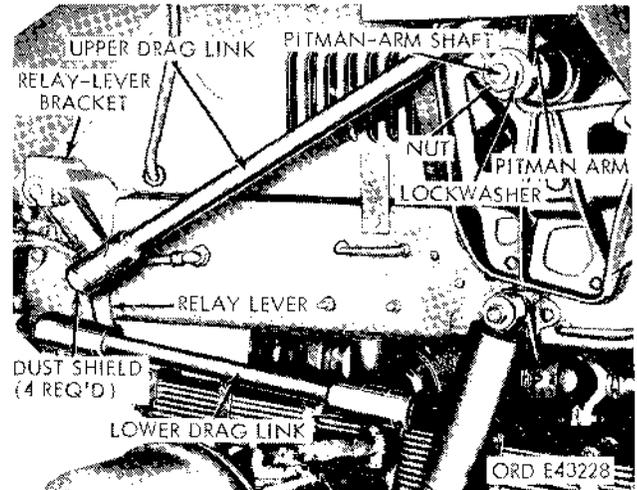

Figure 2-207. Steering linkage under left fender.
a. Removal (fig. 2-207).
(1) Remove the nut and lockwasher securing the pitman arm to the left end of the pitman arm shaft.
(2) Pull the pitman arm from the shaft.
(3) Disconnect the rear end of the upper drag link from the pitman arm ball stud (para 2-218).
b. Installation (fig. 2-207).
(1) Connect the rear of the upper drag link to the pitman arm ball stud (para 2-218).
(2) Set the front wheels in a straightahead position, and set the steering wheel in the mid-position.
(3) Position the pit man arm on the splined shaft with the arm pointing upward.
(4) Push the pitman arm onto the shaft until the nut can be installed on the threaded end of the shaft.
(1) Remove the dust shield (fig. 2-207) from the pitman arm end of the upper drag link.
(2) Place the front end of the upper drag link on the upper ball stud on the relay lever (fig. 2-207). Screw the adjusting plug into the end of the drag link, but do not tighten it.
(3) Install the dust shield (fig. 2-207) at both ends of the drag link, and lubricate the drag link.
a. Removal. Remove the lower drag link (fig. 2-207) from the ball studs at the relay lever and steering arm as described in paragraph 2-218a.